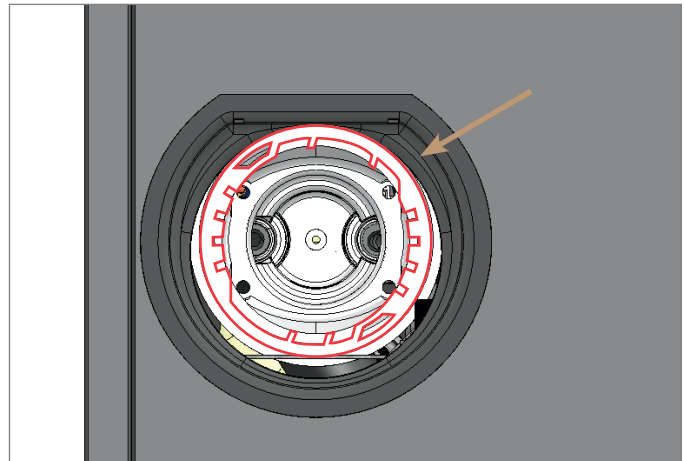

FIG. 1. Teeth inside the filter head.
1. Align the filter with the filter head's teeth inside the machine. See fig. 1.
2. Insert the water filter and rotate the water filter clockwise. See figs. 1–3.